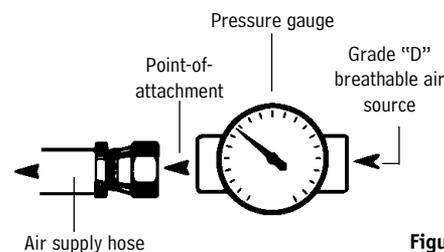

Figure 7
8. Adjust the air pressure at the point-of-attachment to within the approved pressure range (Figure 7). See the Air Pressure section on the previous page.